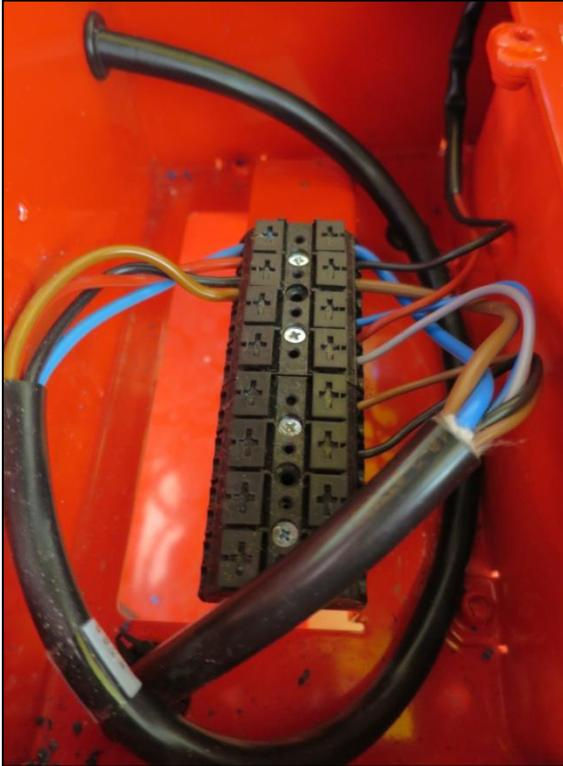
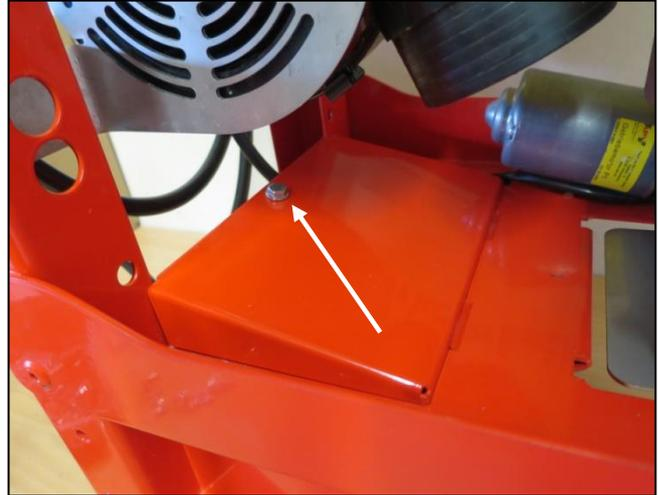

Fig.: 143
Fig.: 144
- Then connect the cable on the left side of the terminal strip (Fig.: 143) according to the connection diagram (see page 23, Fig.: 48). Now close the cover again with the previously loosened hexagon bolt (Fig.: 144).